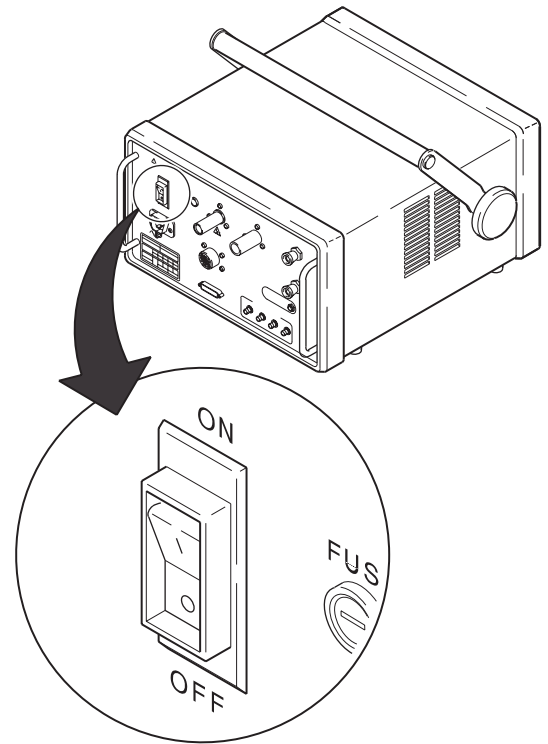

Figure 4 Turn Off Circuit Breaker
- Turn off the power supply circuit breaker on the rear panel of the unit. See Figure 4.